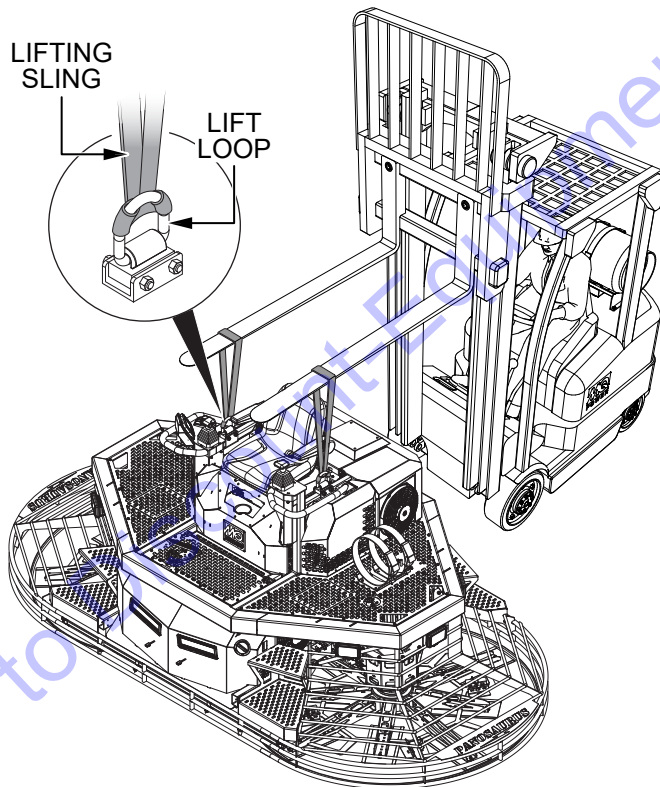

Figure 2. Lifting the Float
1. Secure the lifting slings to the lift loops (Figure 2) located to the left and right of the operator's seat.
2. Insert forklift forks through the loops at the ends of the lifting slings (Figure 2). Keep the slings as close to vertical as possible.